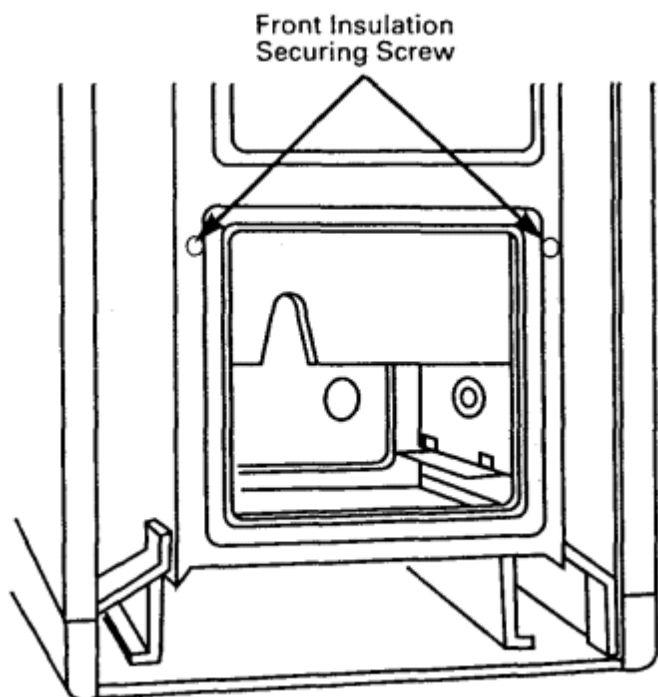

Fig 9 - Insulation Combustion Box Door
- 7) Release the two screws securing the front insulation assembly and remove the assembly (Fig 9).
- 2) Release the 2 screws securing the front insulation assembly and remove the assembly (Fig 9).